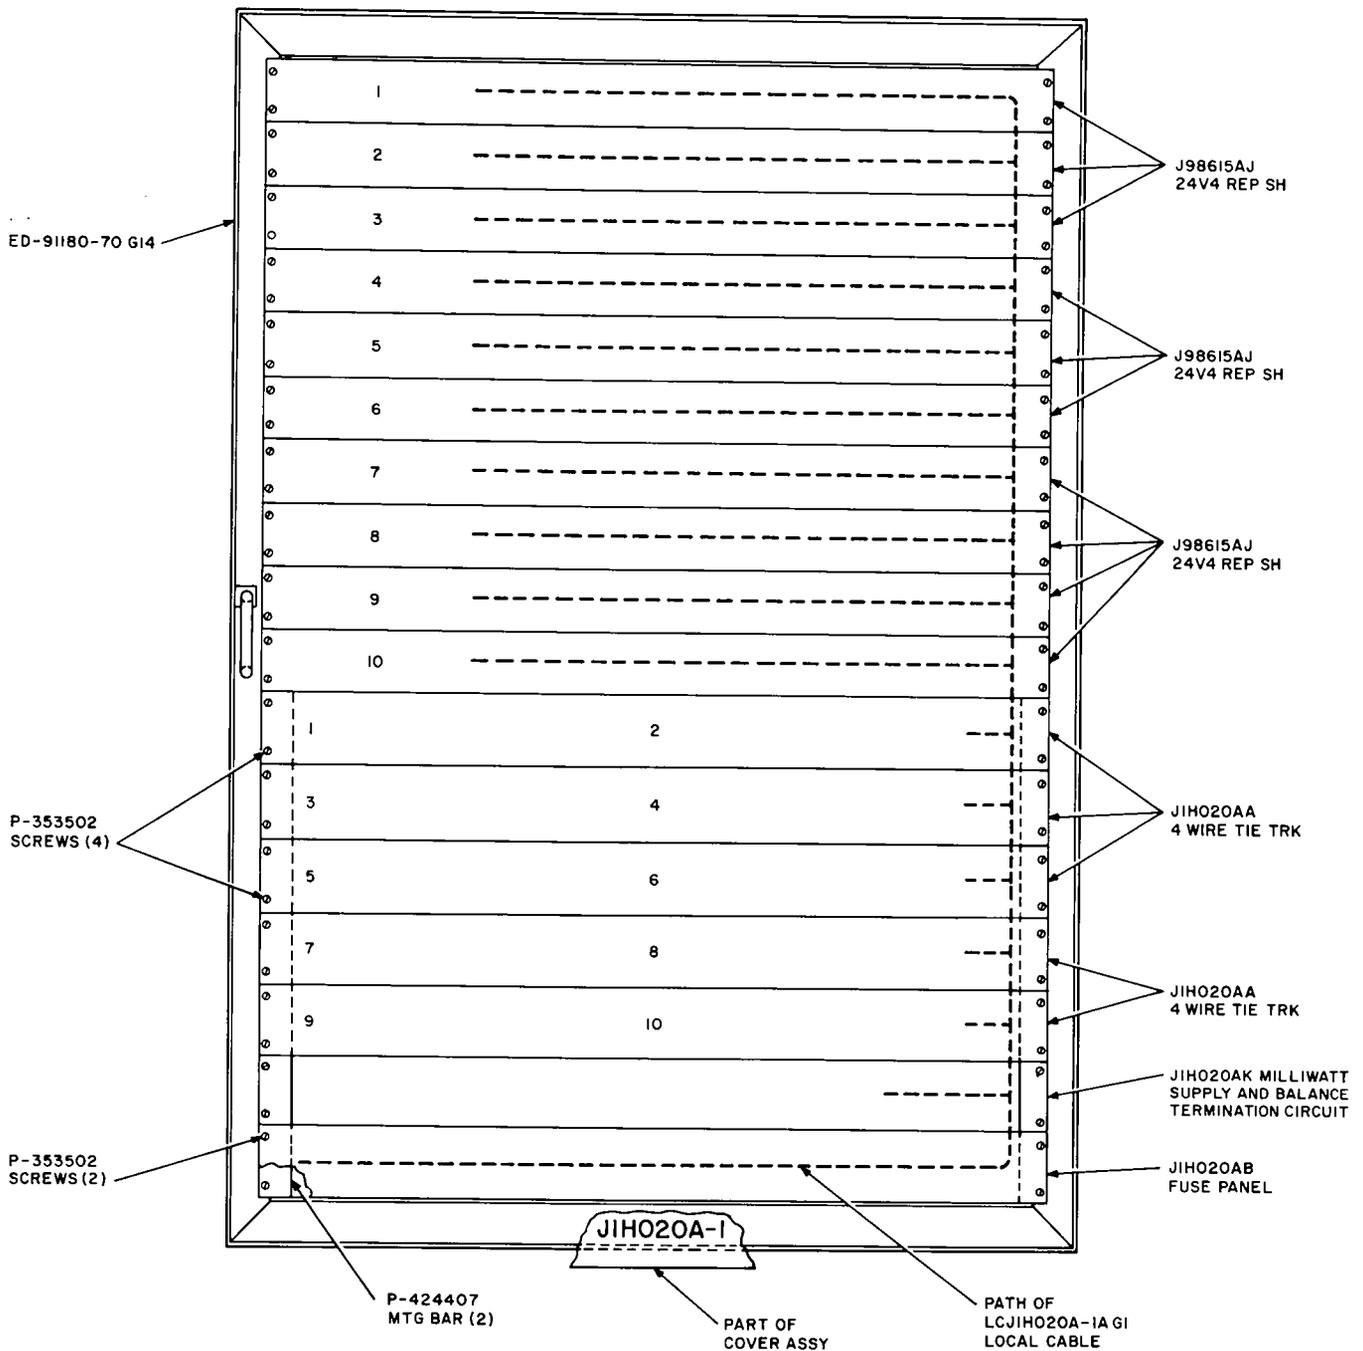

Fig. 1—J1H020A Wall Cabinet—Location Diagram
**2.03** The overall dimensions of the cabinet are 2 feet 1-1/4 inches wide, 11 inches deep, and 2 feet 11-1/4 inches high. Maintenance space of approximately 2-1/2 feet deep and 3 feet wide is required in the front of the cabinet (see Fig. 1).
| Odd-Numbered24V4 RepeaterCircuits  | 518AM JK(2-WIRE IN) | 46                         | TR                         | BLW                            | 4-wire tie trunkcircuit havingcircuit of samenumber (Fig. 1) | TB1- | 18)17)*  |
|  | 903A (J1)               | 8910111415 | BANRNTB1A1 | BLWOO-WWBL     | 4-wire tie trunkcircuit havingcircuit of samenumber (Fig. 1) | TB1- | 25)15)*23)13)*24)14)*                                |
| Even-Numbered24V4 RepeaterCircuits | 518AM JK(2-WIRE IN) | 46                         | TR                         | OO-W                           |  |      | 4-wire tie trunkcircuit havingcircuit of samenumber (Fig. 1) |
|  | 903A (J1)               | 8910111415 | BANRNTB1A1 | OO-WGG-WBR-WBR | 4-wire tie trunkcircuit havingcircuit of samenumber (Fig. 1) | TB1- | 55)45)*53)43)*54)44)*                                |